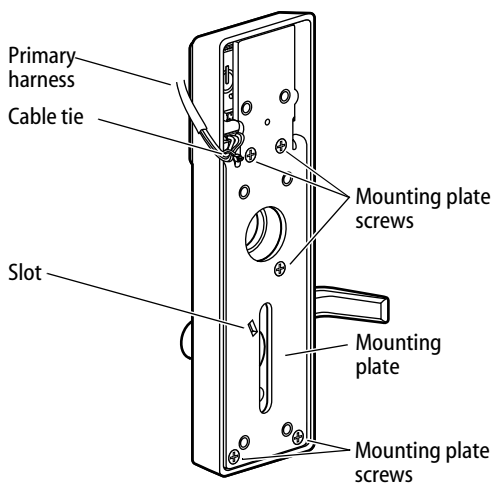
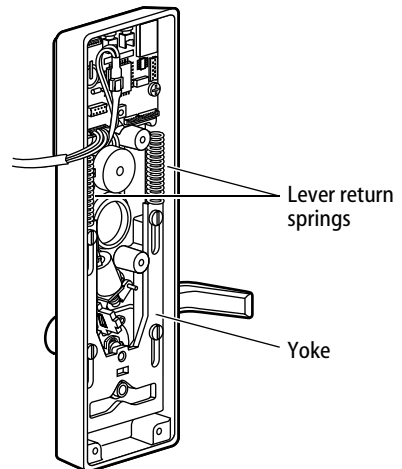

Figure 4 Removing and reinstalling the mounting plate
Figure 6 Removing and reinstalling lever return springs
- 4 Remove the mounting plate (Figure 4):
- 3 With posts on the mounting plate inserted in the lever return springs, slide the mounting plate into the escutcheon (Figure 6). Make sure that the locking plate fits into the slot in the mounting plate. Secure with the five new screws. Route the primary harness against the mounting plate post and secure the harness to the post with a cable tie. See Figure 4.